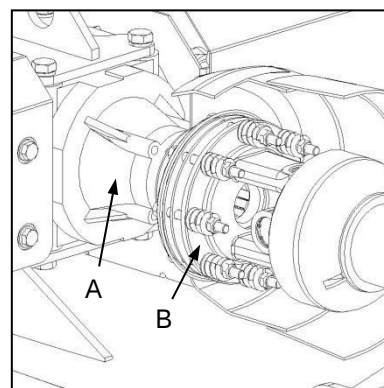

Fig. 5
- ✓ Discoloration or blistering of painted surfaces of the friction clutch housing (Fig. 5-B).
- ✓ The friction clutch housing feels significantly hotter than the surface of the gearbox casing (Fig. 5-A).
- ✓ Verkleuring of blaasvorming van geverfde oppervlakke van die wrywingkoppelaarmhulsel (Fig. 5-B).
- ✓ Die wrywingkoppelaarmhulsel voel beduidend warmer as die ratkasomhulsel (Fig. 5-A).